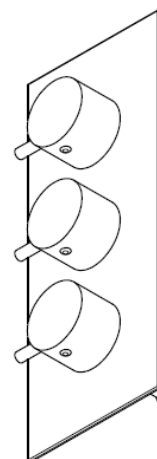

Fig 9
15. For triple valves the temperature control is in the centre, with the on/off controls top and bottom (Fig9)